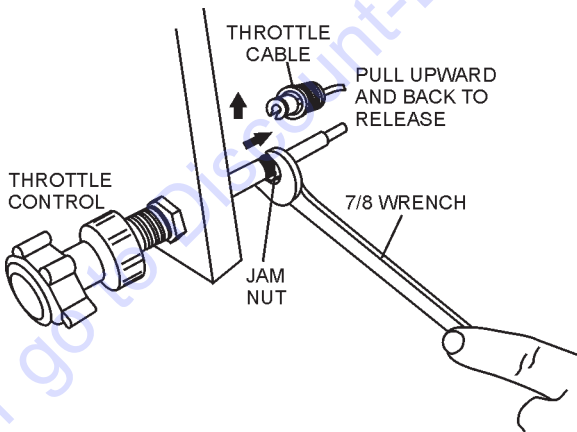

Figure 4. Throttle Cable Removal
2. Using a 7/8-inch wrench loosen the jam nut (Figure 4) that secures the throttle cable to the control box.